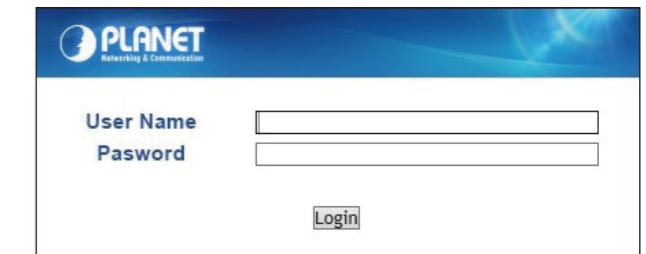

Figure 4-2: Login Screen
2. When the following dialog box appears, please enter the default user name **“admin”** and password **“admin”** (or the password you have changed before) as shown in Figure 4-2.